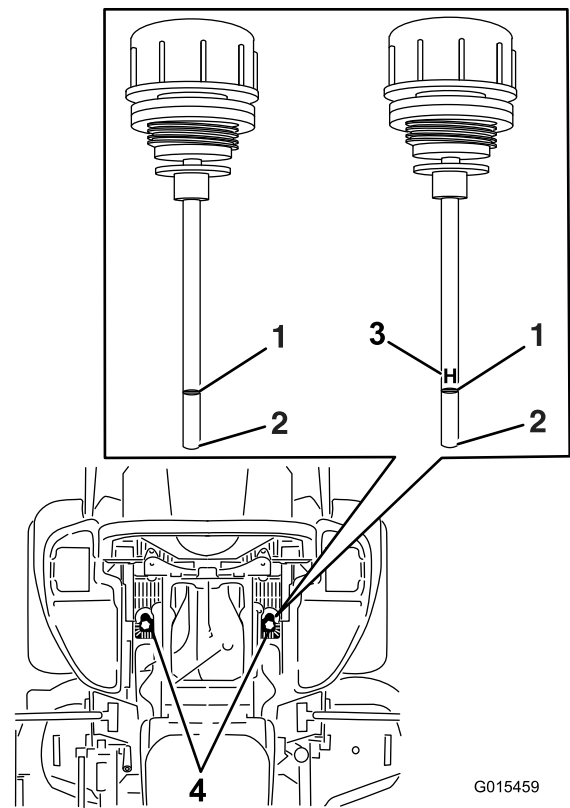

Figure 89
6. Clean the area around the dipsticks of hydraulic system reservoirs (Figure 89).
7. Remove one dipstick from the hydraulic reservoir (Figure 89).
9. Remove the dipstick and look at the end (Figure 89). If the oil level is at the add mark, slowly pour only enough oil into the hydraulic reservoir to raise the level to the full or H line.